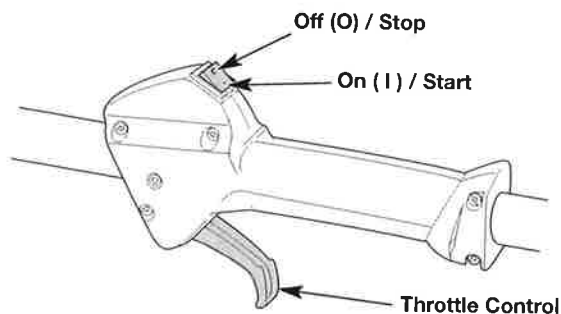
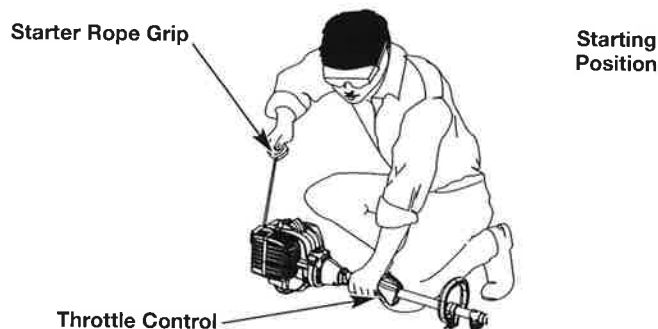

Fig. 8
Fig. 11
WARNING: Avoid accidentally starting the unit. To avoid serious injury, the operator and the unit must be in a stable position when pulling the starter rope (Fig. 11).
NOTE: There is no need to turn the unit on. The On/Off switch is in the ON (I) position at all times (Fig. 8).
5. Crouch in the starting position (Fig. 11).
6. Squeeze the throttle control (Fig. 8) and pull the starter rope with a controlled and steady motion **5 times** (Fig. 11).
2. Press and hold the On/Off switch in the OFF (O) position until the engine comes to a complete stop (Fig. 8).
7. Squeeze and hold the throttle control (Fig. 8). Run the Speed Start™ accessory for 2 seconds.